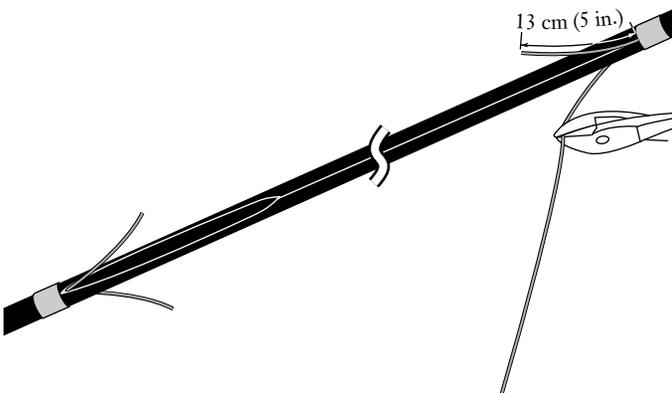

Figure 31
7.12 Cut the steel rods 13 cm (5 in.) from the tape wrap (Figure 31). ALWAYS WEAR SAFETY GLASSES WHEN CUTTING THE STEEL RODS.